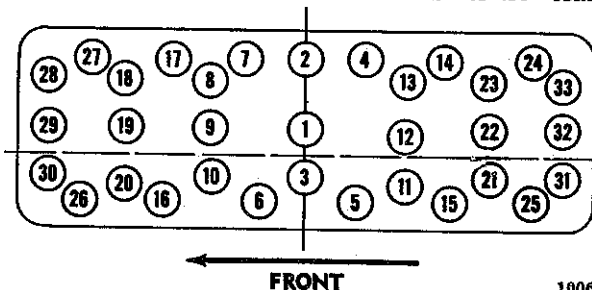

FIG. 88—CYLINDER HEAD BOLT TIGHTENING SEQUENCE
i. Install these two modified guide pins in the cylinder block holes numbered 24 and 26 in Fig. 88. The location and smaller size of the number 24 and 26 holes make these the only locations that can be used effectively for guide pins.
l. Install the cylinder head bolts with washers. Tighten the bolts until they are snug. Remove the two guide pins and install two head bolts in these locations. Torque all head bolts in the sequence given in Fig. 88. Torque with a torque wrench 35 to 45 lb.-ft. [4,8 a 5,5 kg.-m.].